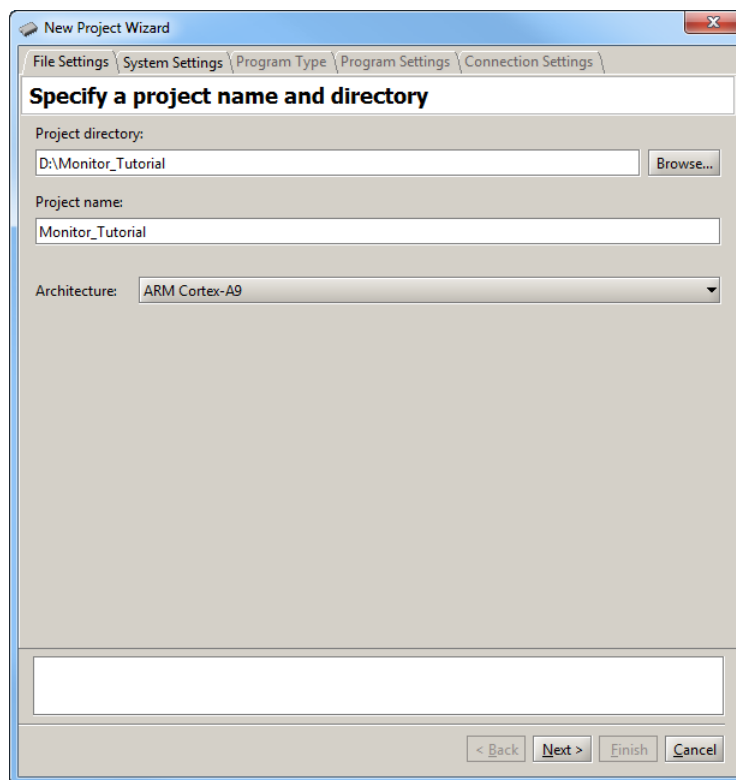

Figure 5. Specifying the project directory and name.
1. Select **File > New Project** to open the *New Project Wizard*, which leads to the screen in Figure 5. The Wizard presents a sequence of screens for defining a new project. Each screen includes a number of dialogs, as well as a message area at the bottom of the window. The message area is used to display error and information messages associated with the dialogs in the window. Double-clicking the mouse on an error message moves the cursor into the dialog box that contains the source of the error.
In Figure 5 we have specified the file system directory *D:\Monitor_Tutorial* and the project name *Monitor_Tutorial*. For simplicity, we have used a project name that matches the directory name, but this is not
The Monitor Program can be used with either an ARM-based system or a Nios II-based system. The choice of a processor is made in the window in Figure 5 in the box labeled Architecture. We have chosen the ARM Cortex-A9 architecture for this tutorial.